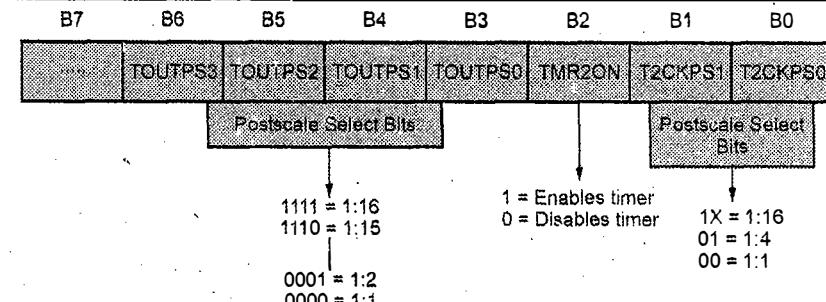

Fig. Q.4.2 : Timer 2 control register
- The module is controlled through the T2CON register Fig. Q.4.2, which enables or disables the timer and configures the prescaler and postscaler. Timer 2 can be shut off by clearing control bit, TMR2ON (T2CON<2>), to minimize power consumption. A range of 16 postscale options (from 1:1 through 1:16 inclusive) can be selected with the postscaler control bits,T2OUTPS3:T2OUTPS0 (T2CON<6:3>).